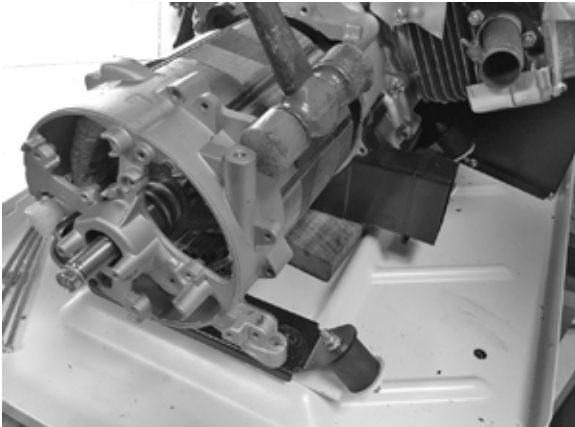

Figure 132.
- e. Remove the four (4) stator holding bolts from the bearing carrier. Refer to Figure 132.